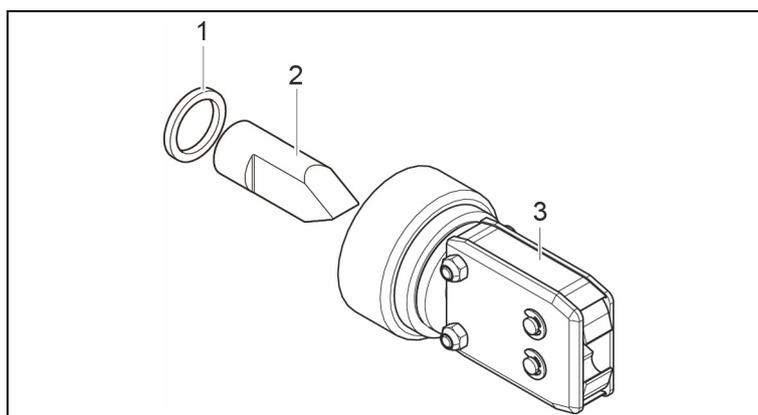

Fig. 29: Pincer head set
- Spacer (Fig. 29/1)
- Plunger (Fig. 29/2)
- Pincer head (Fig. 29/3)